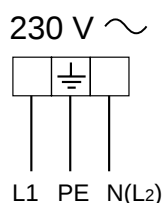

Fig. 6.3
- ✓ The electrical cable must be connected to the terminal board following the diagrams of Fig. 6.3.